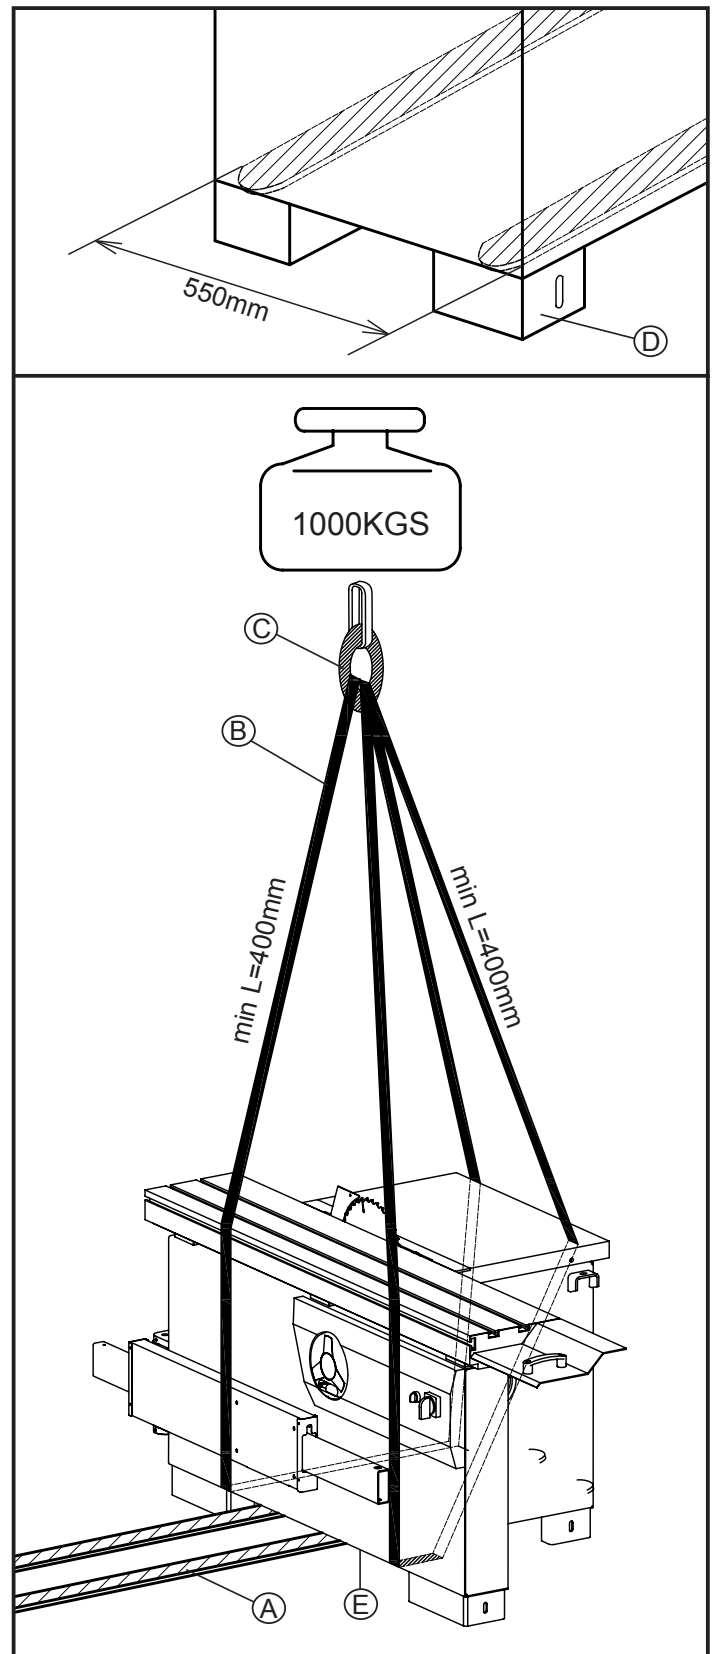

Fig.4.2
Lifting may be carried out by bridge crane or self-propelled lift truck. Before starting the manoeuvres, free the machine of all the parts used for transport or Packaging that have remained on the machine. Check that the capacity of the lifting equipment is adequate for the gross weight of the machine indicated Fig.4.2.
- lift the slings and position them as is shown in the Fig.4.2